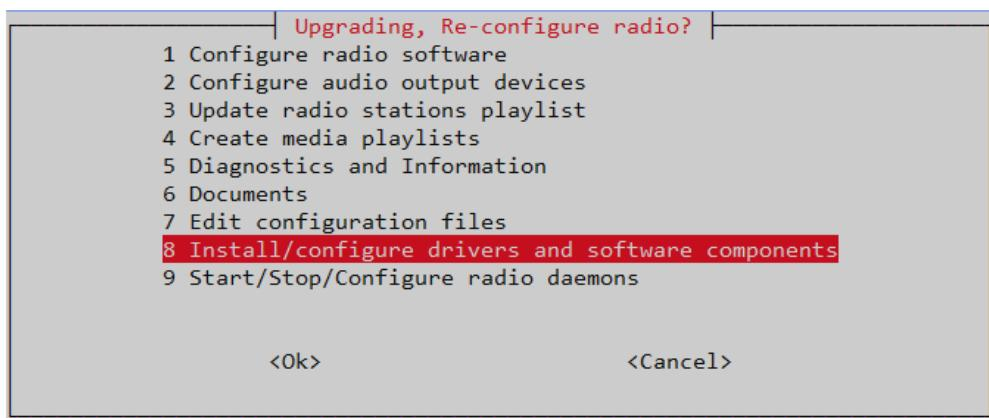

Figure 192 The radio-config menu
- Select option **6 Documents and Tutorials** from the **radio-config** menu shown in *Figure 192 The radio-config menu* on page 135.